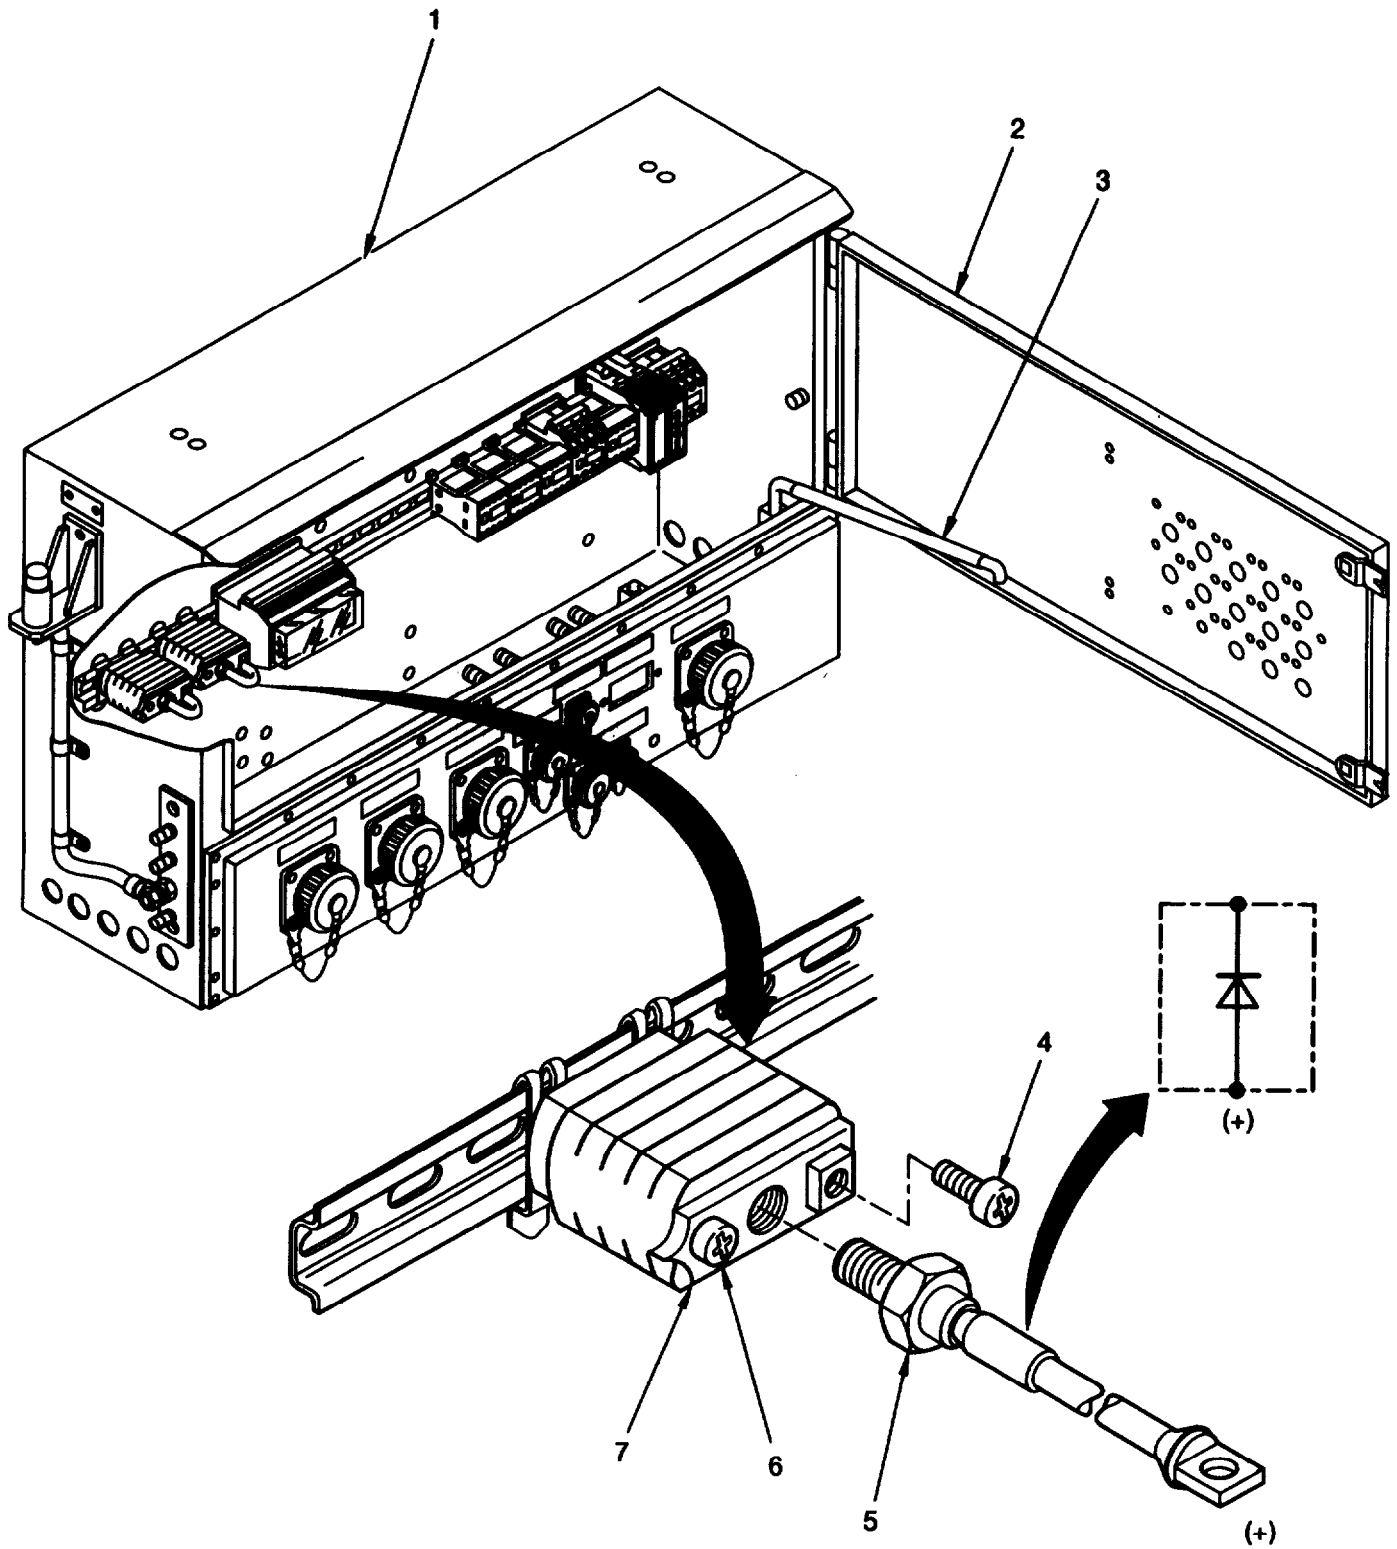

Figure 5-12 Diode Assembly.
- a. Remove stanchion by PDU (1, figure 5-12).
- b. Open access door (2) and secure with prop (3).
- d. Record labeling and position of cables on heat sink (7).
- f. Unscrew diode (5) from heat sink (7).